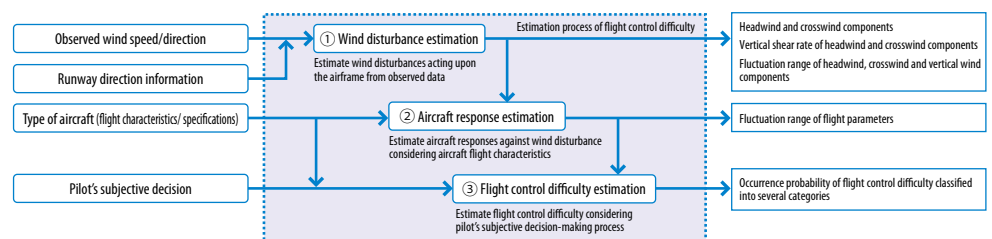

Figure 3 Flow of estimating the flight control difficulty
The estimation of flight control difficulty consists of three estimation processes (Figure 3). First, headwind/crosswind components and their vertical shear rate over the approach path are calculated using observed wind data together with runway direction information. Furthermore, the system uses a neural network (NN) to estimate the variations of the headwind, crosswind and vertical wind components which cannot be directly observed by the Doppler radar or lidar. To train this NN, we